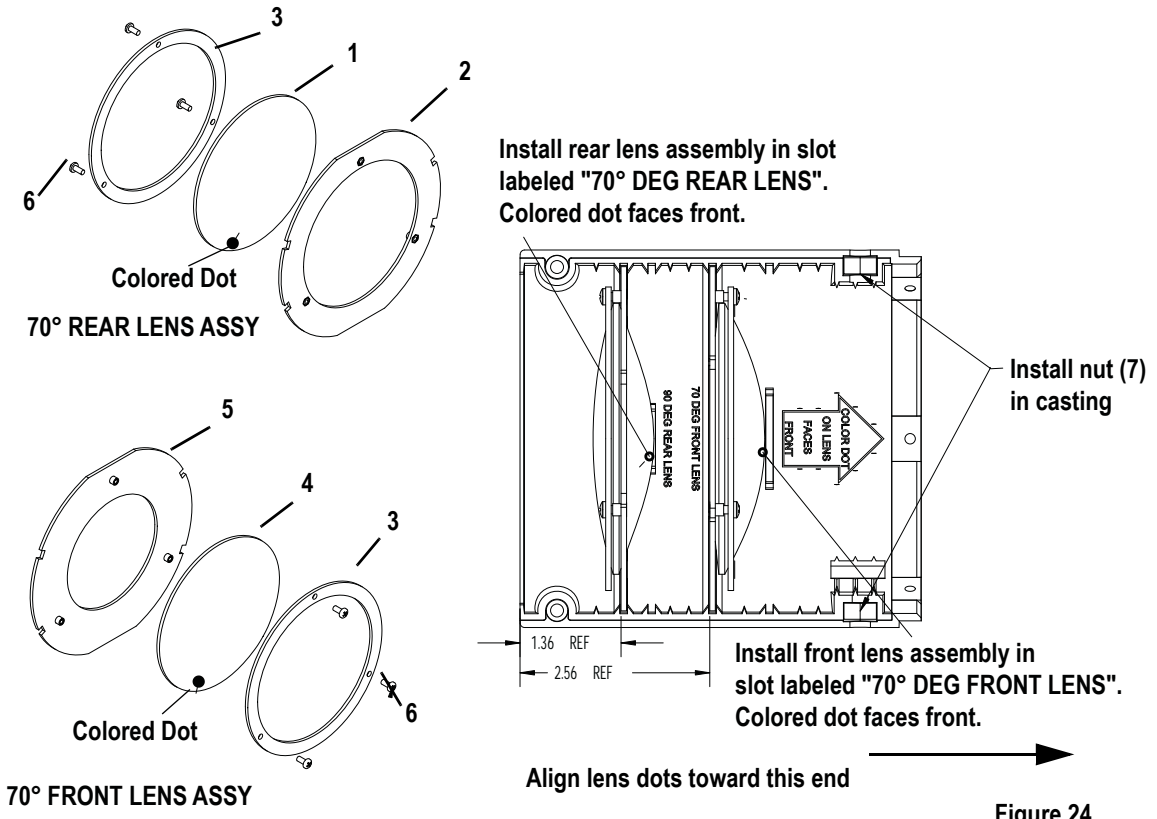

Figure 24
Step 1: See Figure 24. Place rear lens (1) into mounting plate (2) with paint dots facing forward. Center the lens in the mounting plate and secure with the retaining ring (3) and screws (6). Lightly tighten all three screws while maintaining lens position, then tighten screws securely.
Step 2: See Figure 24. Place front lens (4) into mounting plate (5) with paint dots facing forward. Center the lens in the mounting plate and secure with the retaining ring (3) and screws (6). Lightly tighten all three screws while maintaining lens position, then tighten screws securely.